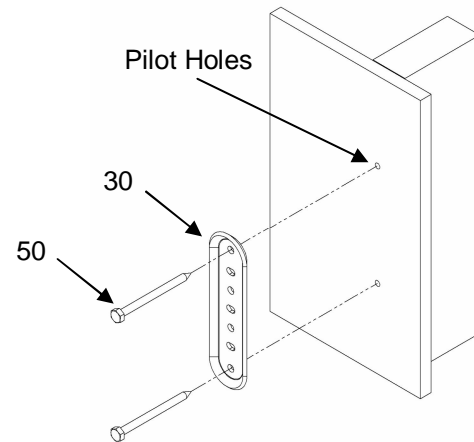

Figure 3. Secure Wall Bracket to Wall
2. Using wall bracket (30) as a template, mark two pilot holes. (See Figure 3).